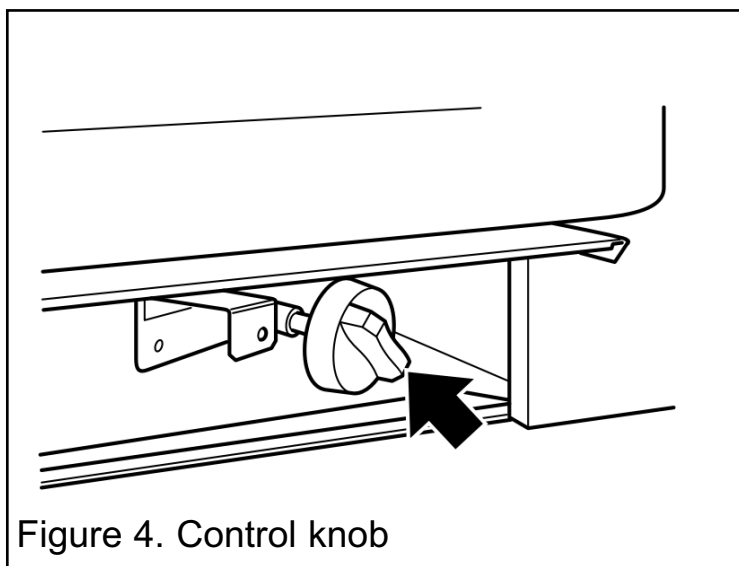

Figure 4. Control knob
- Depress the control knob and turn SLOWLY anticlockwise towards the PILOT/IGN position (See figure 4). A spark should be generated at the pilot while turning. The spark should ignite the pilot. The pilot flame can be seen at the left side of the fuel effect.